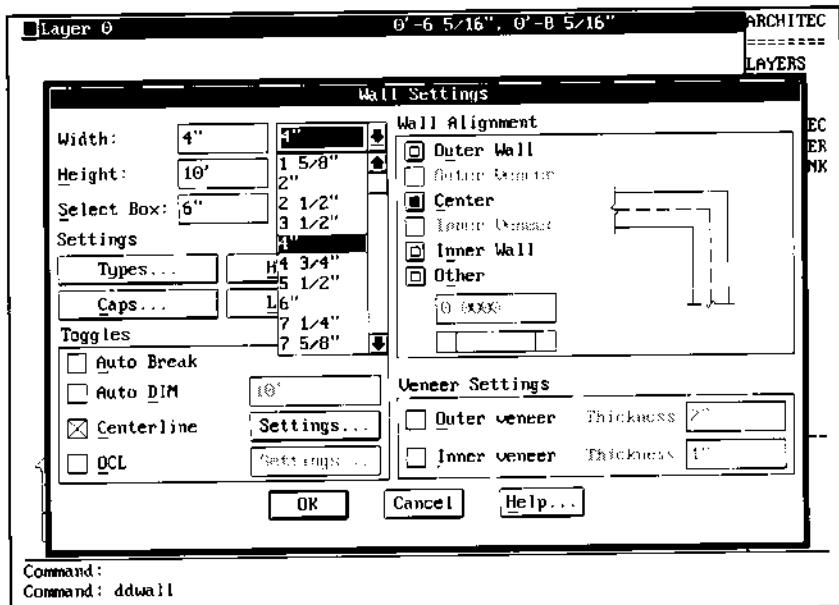
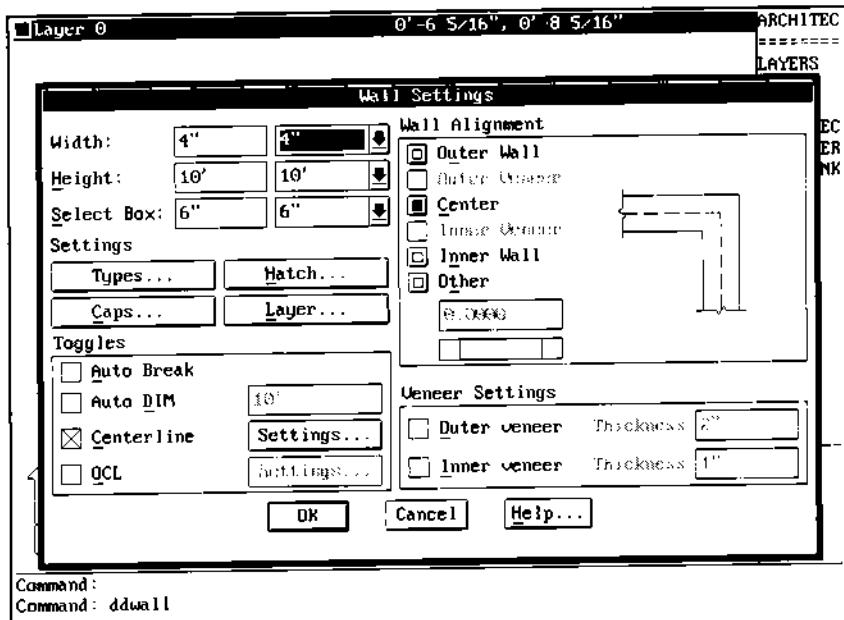

Figure 18.
Figure 19.
9. Select the D option to display the Wall Settings dialog box as shown in Figure 18. Set the toggle for Auto-Dimension distance OFF by picking the check box adjacent to Auto Break so no X mark is displayed. Enter 4" in the Width: edit box or pick the down arrow from adjacent popup list to change the wall width as shown in Figure 18. Peruse wall alignment and height settings for center and 10', then pick OK as shown in Figure 19.